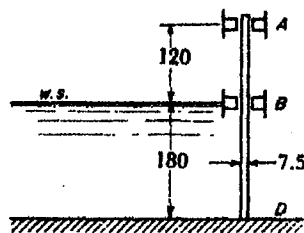
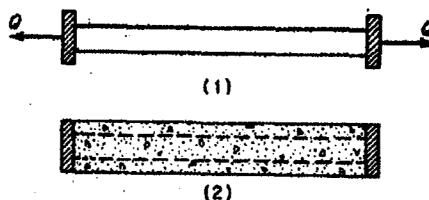

Fig. 6(b)
Fig 7(a)
- 7.(a) Pre-stressed concrete beams are made in the following manner: Steel wires are stretched between rigid end plates to a tensile stress σ_0 as shown in Fig. 7(a). Concrete is then poured around them to form the beam as shown in Fig. 6(a)₂. After the concrete sets, the external forces Q are removed and the beam is left in a pre-stressed condition. If the moduli of elasticity of steel and concrete are in the ratio 12:1 and their cross-sectional areas are in the ratio 1:15, what are the final residual stresses in the two materials?
(b) For a rectangular element shown in Fig. 7(b), the following numerical data are given $\sigma_x = -75 \text{ kg/cm}^2$, $\sigma_y = 100 \text{ kg/cm}^2$ and $\tau_{xy} = -50 \text{ kg/cm}^2$. Determine